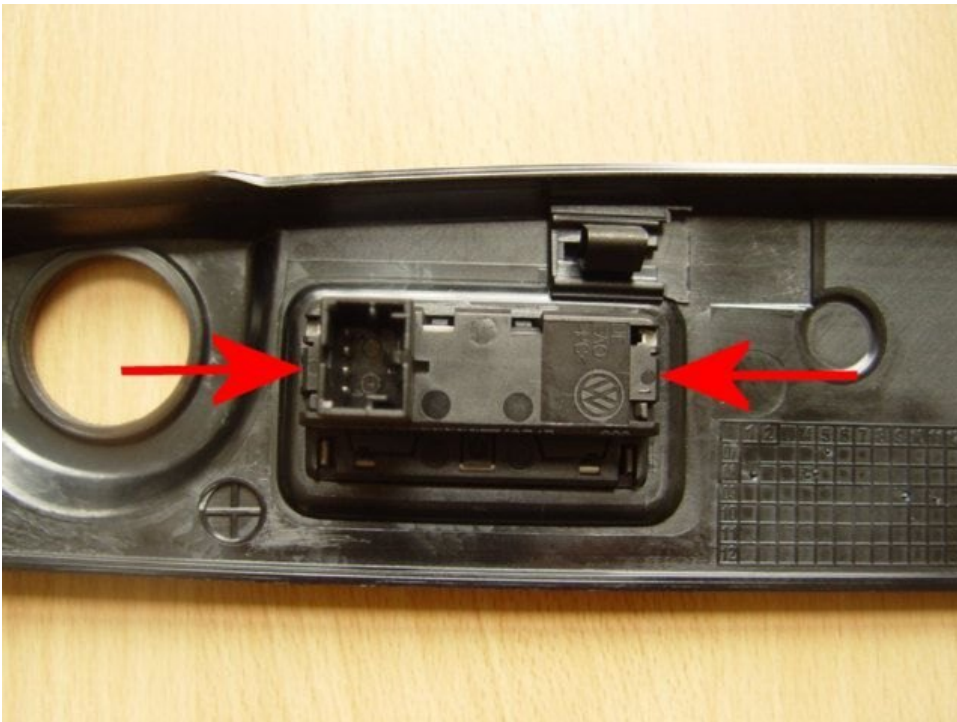

Figure 1
- 3.Remove the switch from the cover panel by pressing in the two retaining clips inboard and remove the switch from the cover panel (Figure 1)